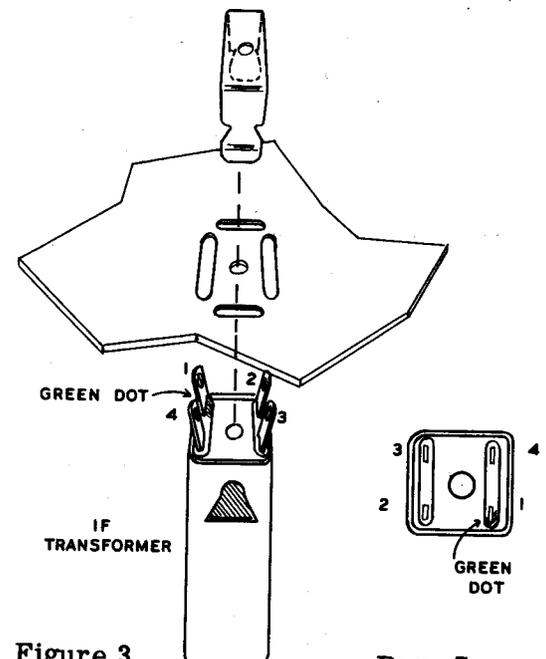

Figure 3
- () Mount an IF transformer from top of chassis in position F. Green dot should be located nearest socket E. Hold transformer in place and press IF transformer mounting clip over it from inside chassis as shown in Figure 3. Clip should engage cutouts on opposite sides of transformer.